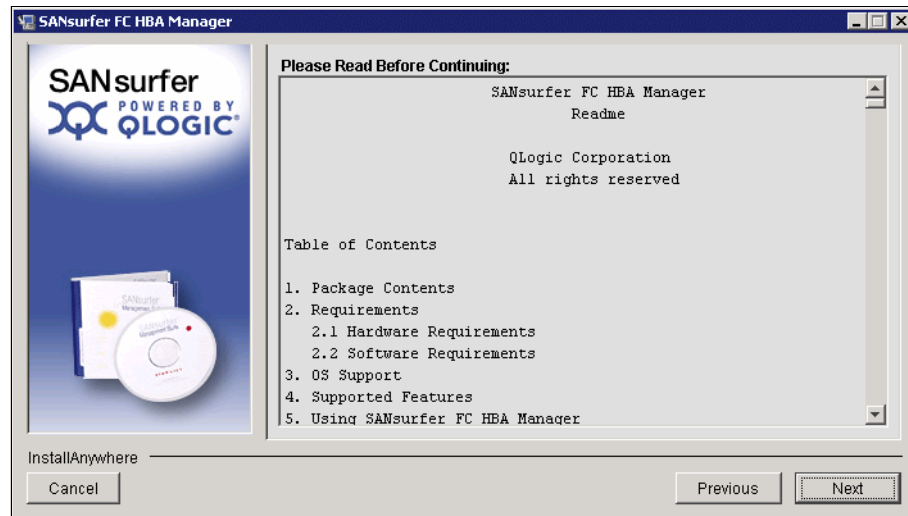

Figure 7-64 SANsurfer Readme panel
3. In the Readme panel (Figure 7-64), click **Next**.